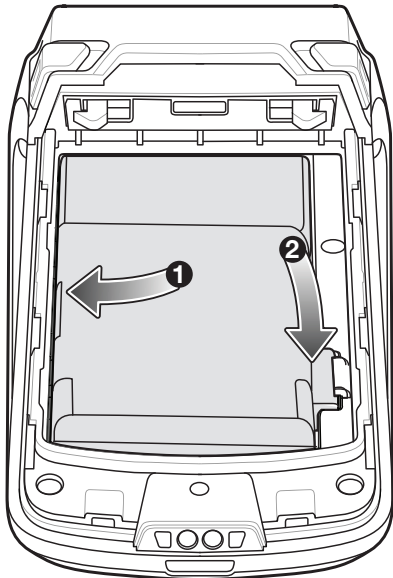

Figure 1-5 *Inserting the Battery*
3. Align the three tabs on the bottom of the battery (Figure 1-5) with the three slots in the battery compartment.